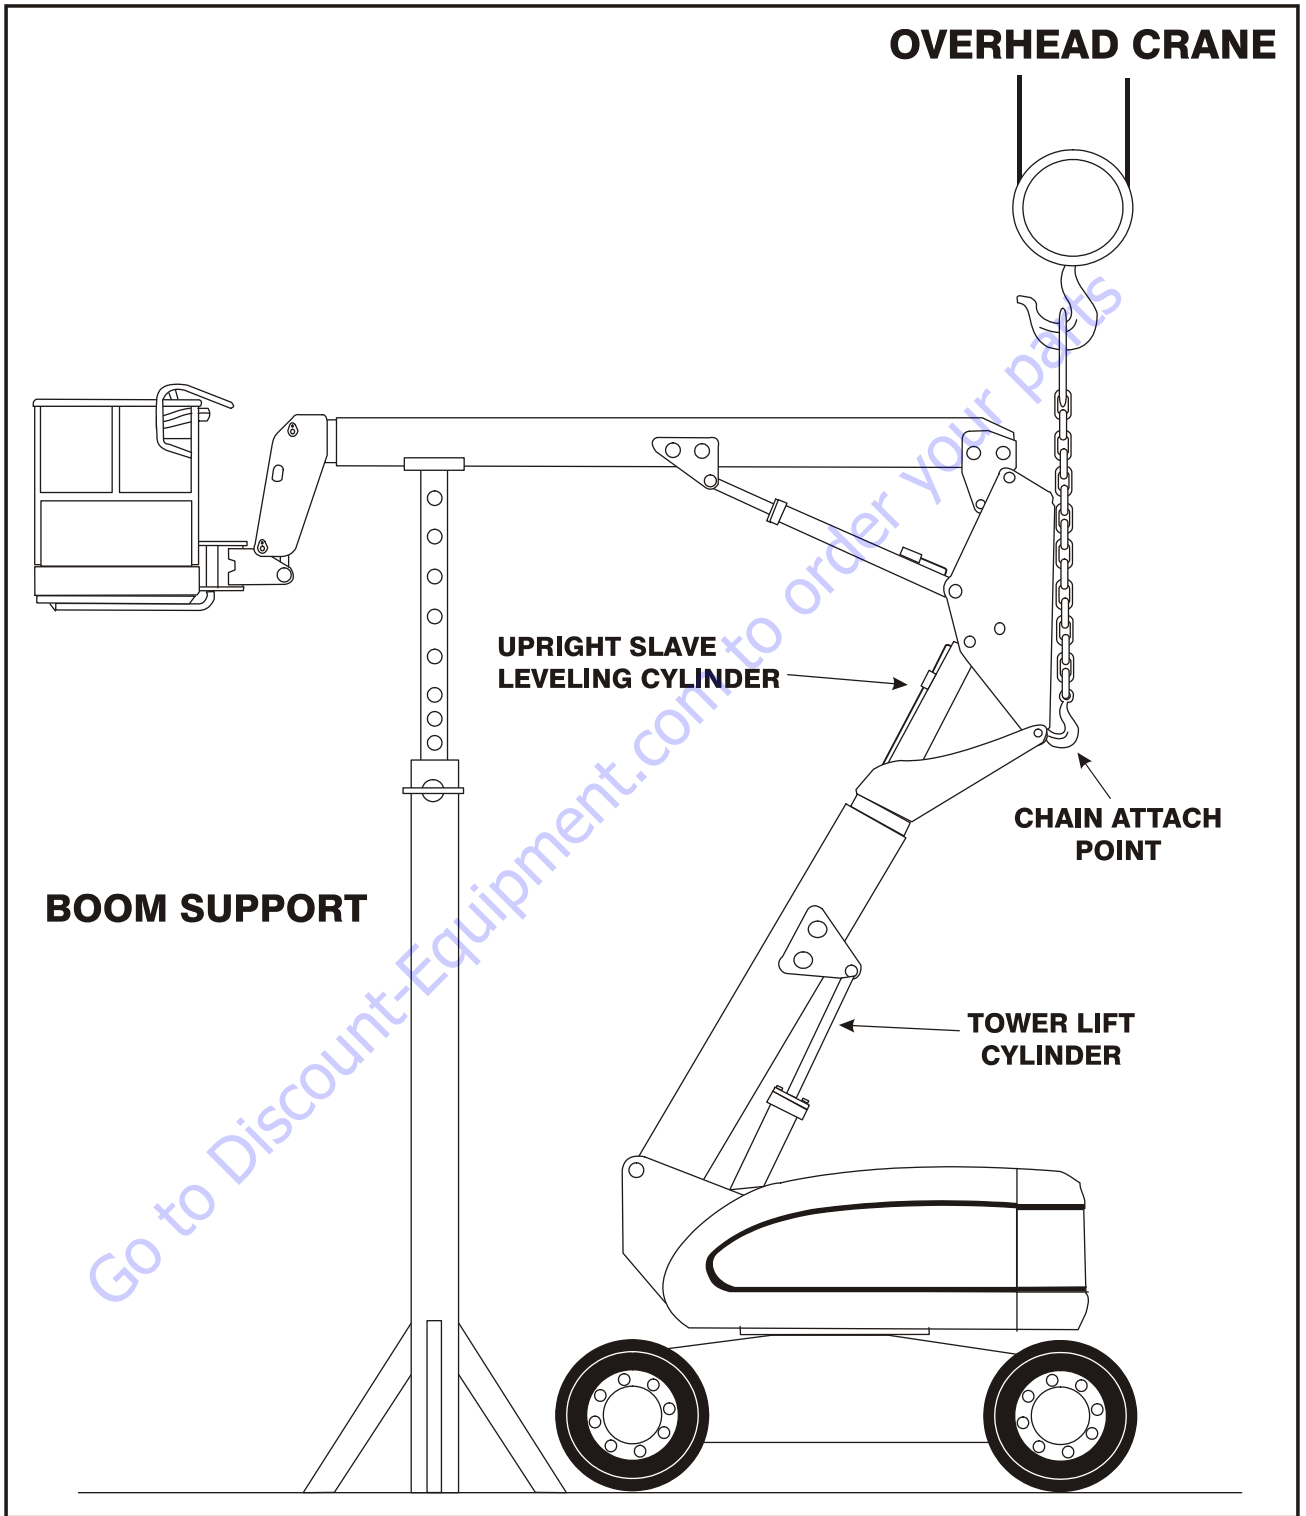

Figure 5-145. Boom Positioning and Support, Cylinder Repair
2. Shut down engine. Support main boom basket end with a prop (See Figure 5-145., Boom Positioning and Support, Cylinder Repair).
1. Place the machine on a flat and level surface. Start the engine and place the main boom in the horizontal position. Shut down engine and prop the boom. (See Figure 5-145., Boom Positioning and Support, Cylinder Repair).
1. Place machine on a flat and level surface. Place the main boom in a horizontal position with the telescope cylinder fully retracted. Place the tower boom in a fully elevated and fully retracted position (See Figure 5-145., Boom Positioning and Support, Cylinder Repair).
2. Support the main boom with a prop. Support the upright with an overhead crane. (See Figure 5-145., Boom Positioning and Support, Cylinder Repair).
1. With the main boom and tower boom positioned and supported as in Figure 5-145., Boom Positioning and Support, Cylinder Repair, place the tower lift cylinder in position on the turntable and secure in place using slings.